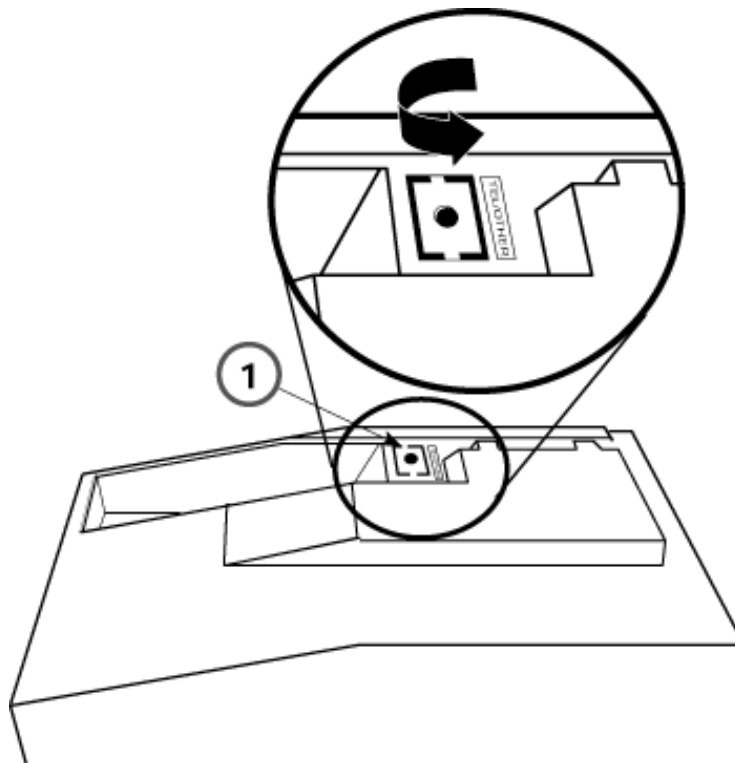

Figure 3-38. Removing the Jack Guard
1. If the module cover has a square jack guard (item 1 in Figure 3-38) that protects the TEL/OTHER jack area, grasp and twist the guard to remove it.